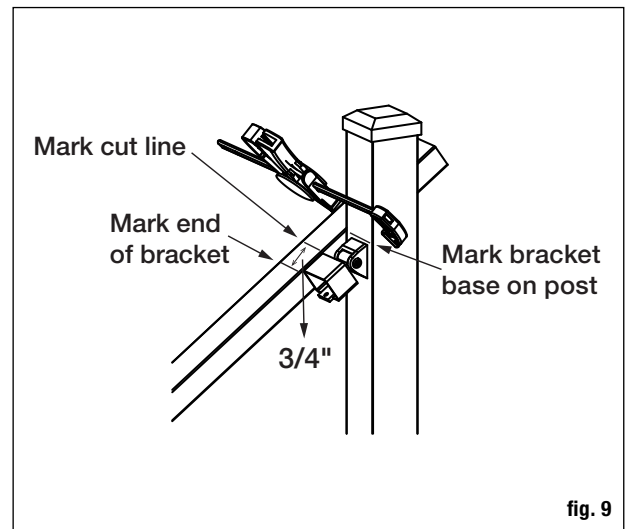
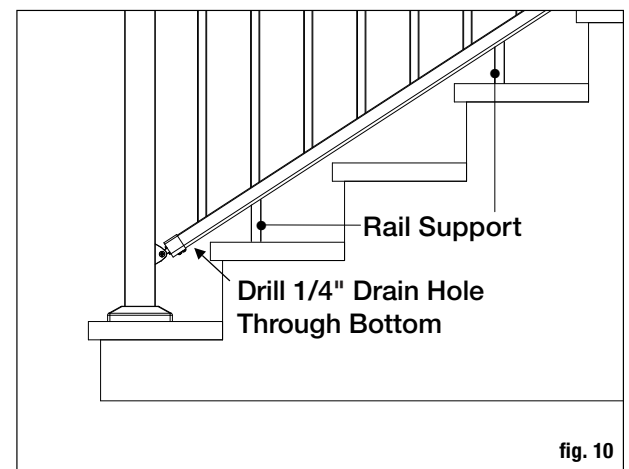

fig. 9
fig. 10
Step 4: Position the swivel bracket in location along the clamped rail. Mark the rail at the end of the bracket, add 3/4" and make a second mark for cutting. Mark the post along the top or bottom of the bracket base (**fig. 9**). Repeat for the other bracket and post locations. Cut the top and bottom rails to length using a miter or circular saw with carbide tipped blade. **Note: The distance from the end of the top rail to the first stair baluster will be 1-1/16" longer than the bottom rail to ensure the balusters are plumb.**
Step 5: Separate the bracket bases and side covers from the bracket assembly. Position the front end of brackets (B-1, B-2) to rails and mark the locations of the screw holes on the rails. Pre-drill through the rail only, using a 1/8" drill bit. Secure the rail cups to the rails using the (2) - #10 x 1" Pan Head Screws (B-10) provided.
Step 6: Holding the bracket bases, on the posts at the previously marked locations, transfer the location of the bracket base (B-3) screw holes onto the post. Note: Include the bracket side cover (B-4) when determining the center location. Pre-drill through the post, using a 1/8" drill bit. Position the base of each bracket with the bracket cover side facing the stairs, and attach to the post with the (2) - #10 x 1" Self-Drilling Flat Head Screws (B-11) provided.
Step 7: A rail support is needed every 3 feet max (1 is included in the 6ft rail kit, 2 in the 8ft kit). Insert the angled stair connector and straight connector into the rail support and position between the rail and stair tread so both are in contact. Then mark their locations on the rail and tread. Pre-drill using a 1/8" drill bit. Attach rail support connectors to the bottom of the lower rail at 3-foot intervals using included screws. Drill one 1/4" drain hole through the bottom of the rail to prevent trapping water. Position the hole toward the lower end of the rail, roughly 1-1/2" from rail end to avoid the lower bracket. (**See fig. 10**).